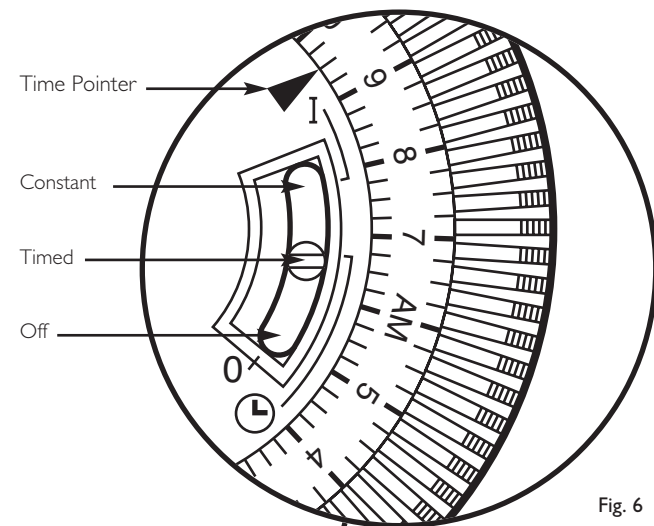

Fig. 6
**Three position switch** (Fig. 6)